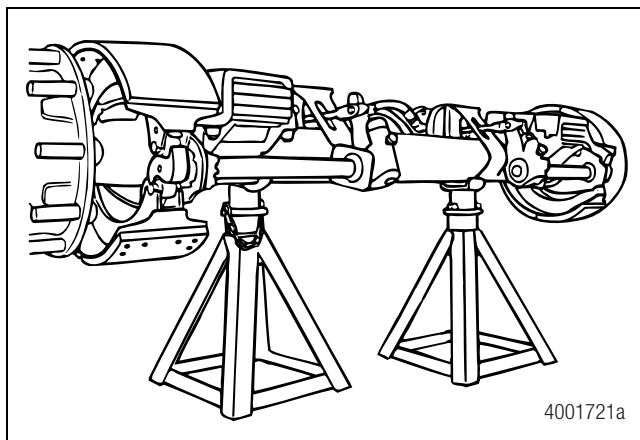

Figure 3.8
2. Use a jack to raise the trailer until the tires are off the ground. Place safety stands under the trailer frame or axles. Figure 3.8.